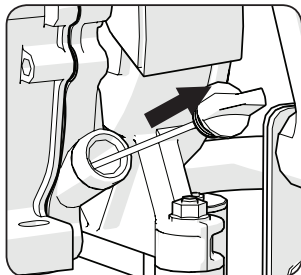

Fig 18
- Remove the oil filler cap. (**Fig. 18**)